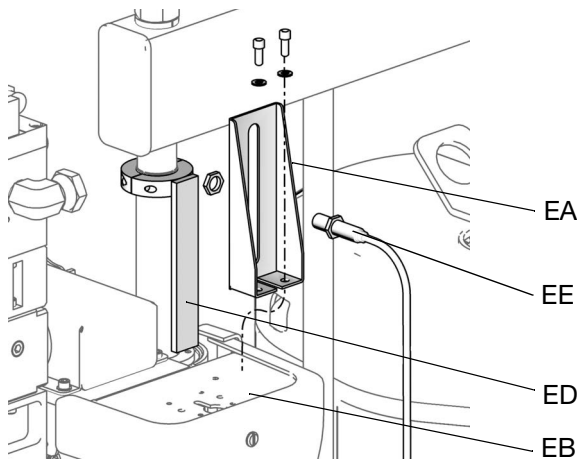

FIG. 10
3. To measure either drum low or drum empty, attach one sensor (EE) to the sensor bracket (EA).
4. Attach the actuator (ED):
- a. For D200, D200s, D200si and D200i supply systems: Attach the actuator (ED) to the ram piston rod, near the top, so it passes in front of the sensor (EE) at the correct level for drum low or drum empty. See FIG. 10.
- b. For D60 and D60i supply systems: Attach the actuator (ED) to the ram piston rod, near the top, so it passes in front of the sensor (EE) at the correct level for drum low or drum empty. Flip actuator bracket (ED) so that it points upwards instead of downwards to allow it to pass the sensor (EE). See FIG. 10.